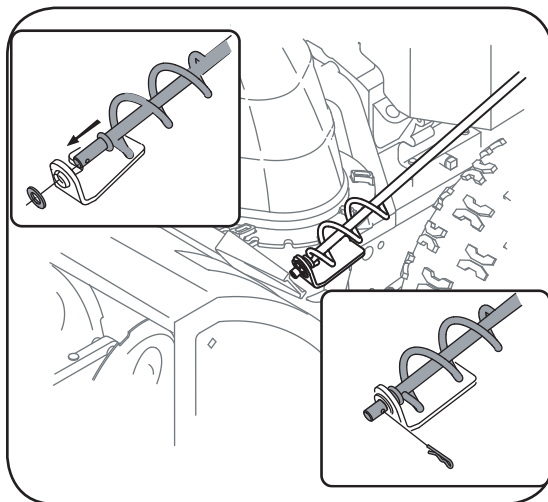

Figure 3-3
- Remove the flat washer and hairpin clip from the end of the chute directional control. See Figure 3-3.